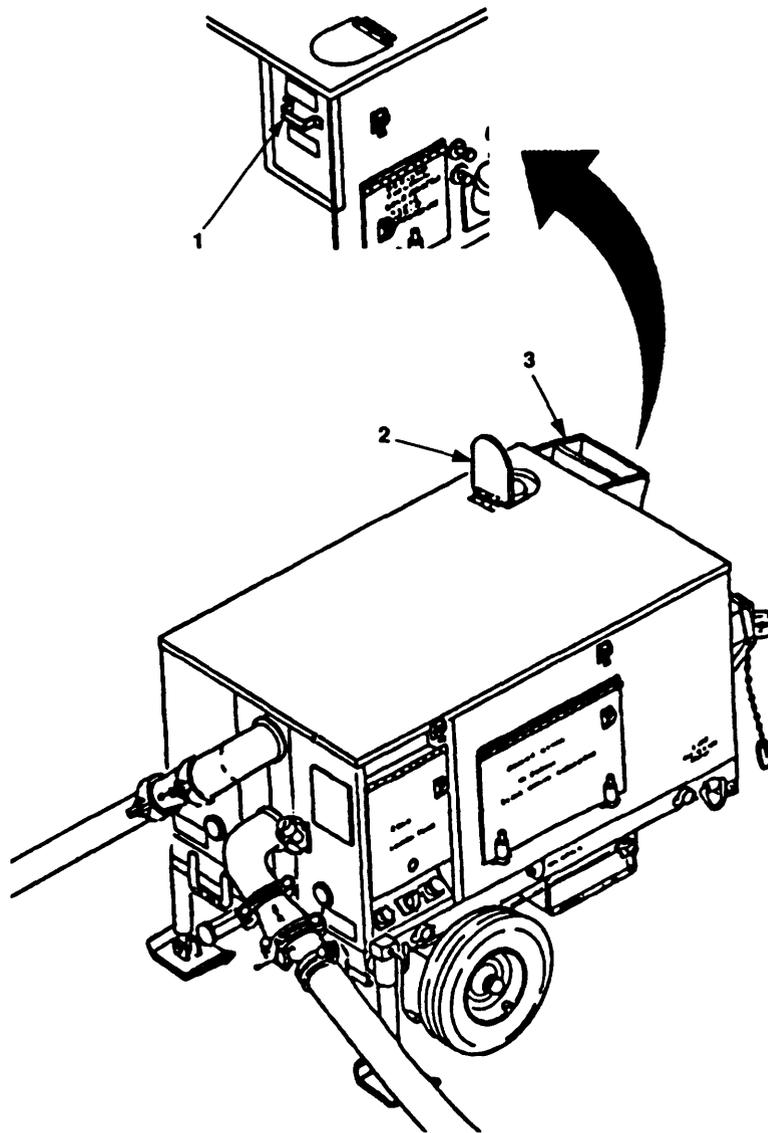

Figure 2-23. Model 609-C Setup for Startup.
- b. Pull air exhaust door handle (Figure 2-23, 1) to open air exhaust scoop (3) and engine exhaust door (2) .